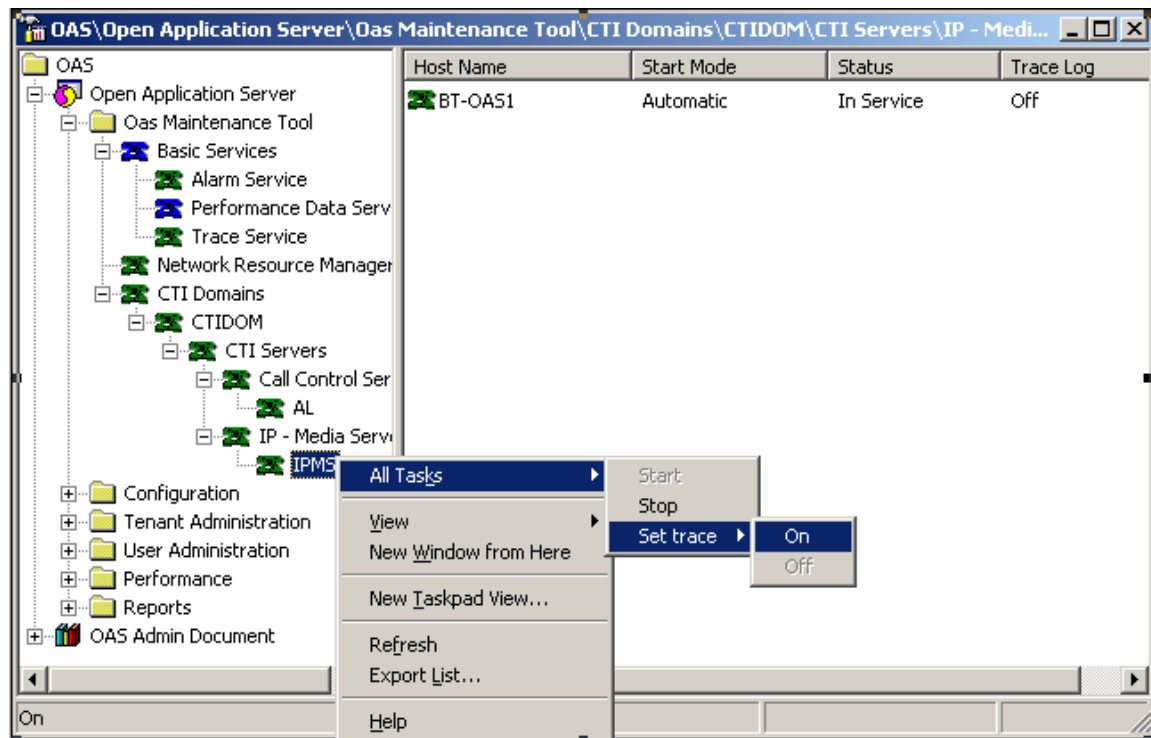

Figure 6: Enable Trace for a component
2. Point to **All Tasks**, point to **Set Trace**, and then click **On** as shown in Figure 6.